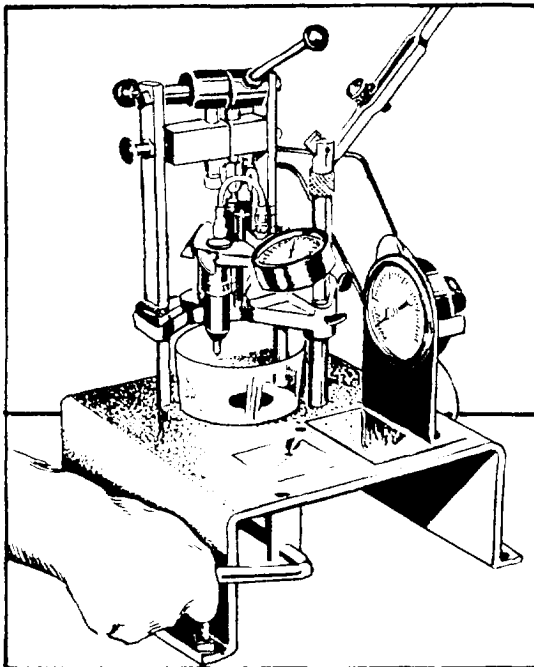

Figure 5-30.-Injector high-pressure test.
**HIGH-PRESSURE TEST.**— This test is performed to discover any fuel leaks at the injector filter cap gaskets, body plugs, and nut seal ring which did not appear during the valve holding pressure test. The high-pressure test also indicates whether the injector plunger and bushing clearance are satisfactory. To perform the test, place the injector rack in the **FULL-FUEL** position. Operate the pump handle (fig. 5-30) to build up and maintain a pressure of 1,600 to 2,000 psi. Then inspect the injector filter cap gaskets, body plugs, and injector nut seal ring for leaks.